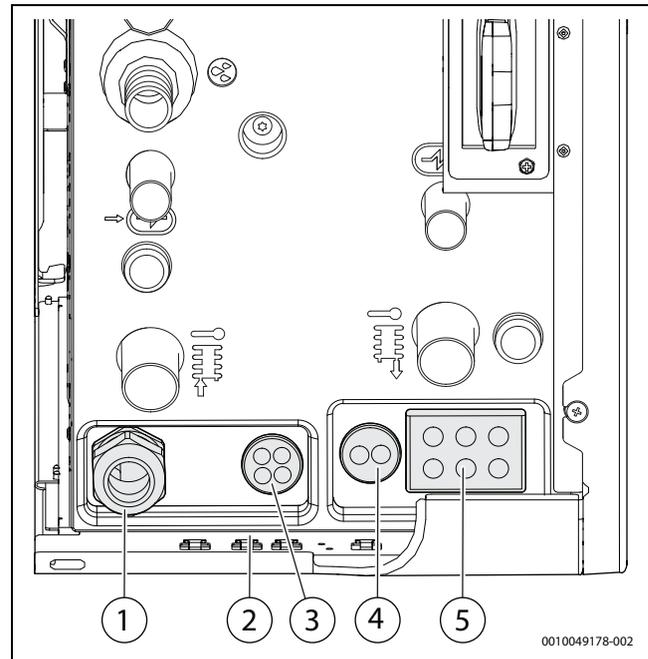
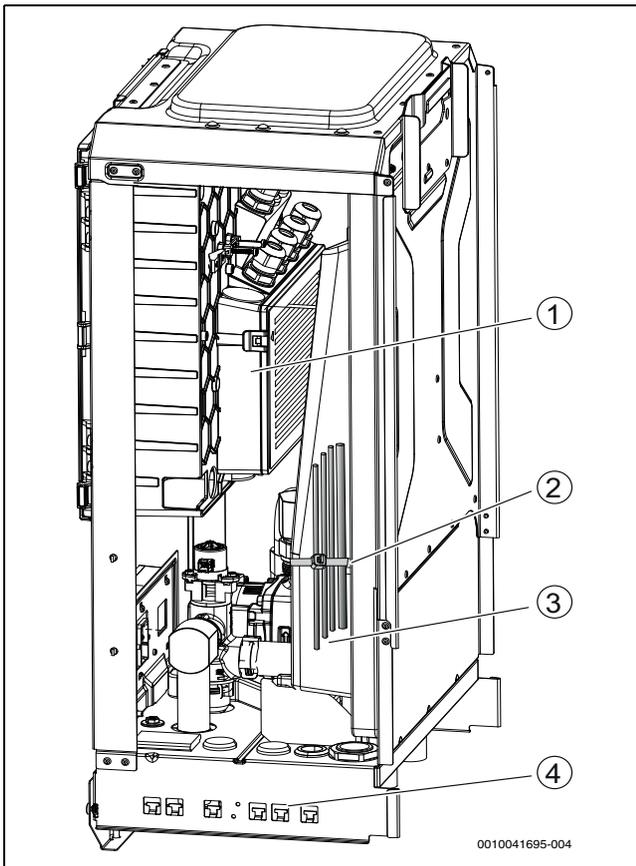

Fig. 25 Cable inlets to the indoor unit
Fig. 26 Cable routing
- Feed the connecting cables over the cable feeds on the bottom of the indoor unit. See figure 25 for the correct order of the cables.
- Fix the cables with cable ties at the fixing points (→Figure 25 [3], Figure 26 [2], [4]). Avoid crossing the cables.
- Route and fix the cables inside the indoor unit (→Figure 26).
- After inserting the cable, tighten the cable gland (→Figure 25 [1])